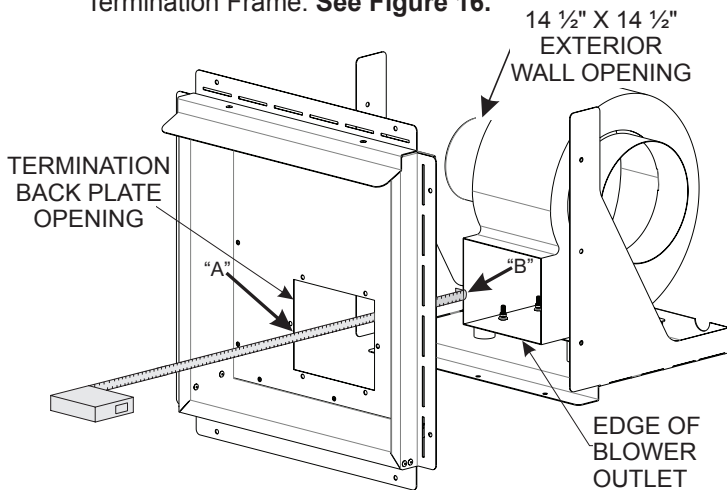

Figure 16
20. Locate the two halves of the Air Duct. To determine the length needed for this duct, take a measurement from the blower housing outlet to the inner flange on the Outer Termination Frame. **See Figure 16.**